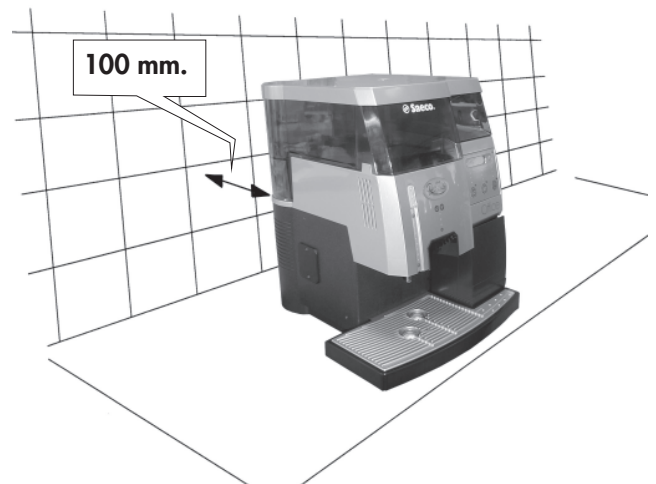

Fig. 3
- the minimum distance between the wall and the machine must be in line with the indications outlined in figure 3.
- the distance from the walls must be as shown in Fig.3;